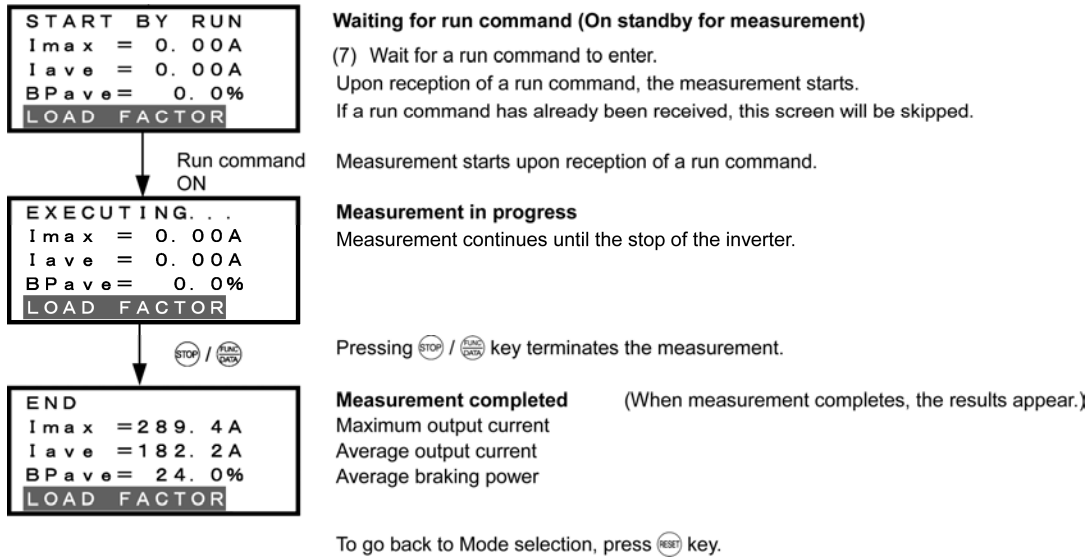

Figure 7.32 Screen Transition for "Load Factor Measurement" (Start-to-stop measurement mode)
- (1) Turn the inverter ON. It automatically enters Running mode. In that mode, press the **(PRG)** key to switch to Programming mode and display the menu screen.
- (2) Move the pointer \rightarrow to "9. LOAD FCTR" with the **(\wedge)** and **(\vee)** keys.
- (3) Press the **(FUNC DATA)** key to establish the selected menu and proceed to the measurement mode selection screen.
- (4) Select START \rightarrow STOP (Start-to-stop measurement mode) with the **(\wedge)** and **(\vee)** keys.
- (5) Press the **(FUNC DATA)** key to establish the selected measurement mode.
- (6) On the confirmation screen, press the **(FUNC DATA)** key to switch to standby for measurement.
- (7) Wait for a run command to enter. For details, refer to the screen transition in Figure 7.32. Upon receipt of a run command, measurement starts.
- (8) Press the **(RESET)** key to go back to the mode selection screen.
- (9) Press the **(RESET)** key again to go back to the menu screen.
Figure 7.32 shows an example of the LCD screen transition starting from Menu #9 "Load Factor Measurement."